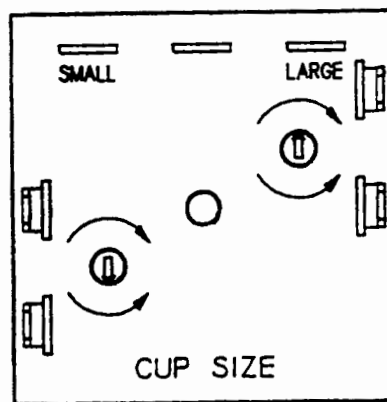

Fig. 2
2. **PORTION CONTROL ADJUSTMENT** - (Model HC20 Only) Adjustments in drink size are made by simply turning the dials on the Universal Timer (see Fig. 2).